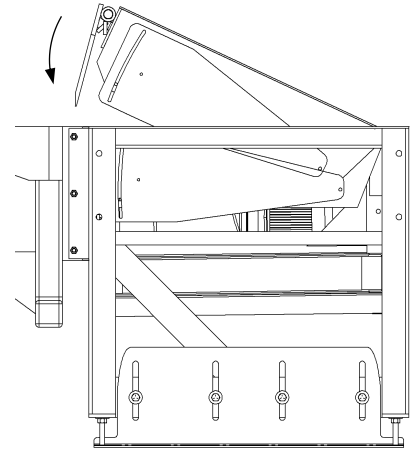

Figure 12: Storing Leveler
2. Release the UP button. The leveler will lower to its stored position and rest in the lip keepers (Figure 12).